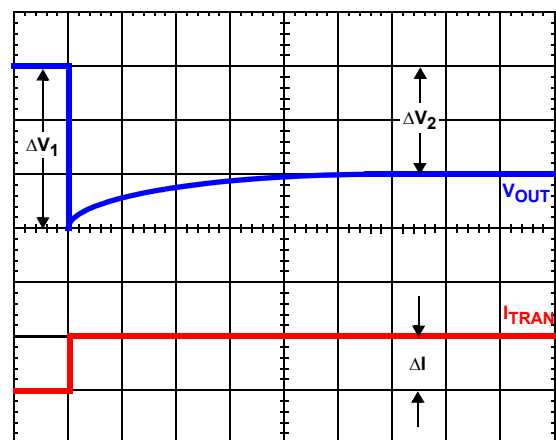

FIGURE 19. TIME CONSTANT MISMATCH BEHAVIOR
Due to errors in the inductance and/or DCR it may be necessary to adjust the value of  $R_1$  and  $R_2$  to match the time constants correctly. The effects of time constant mismatch can be seen in the form of droop overshoot or undershoot during the initial load transient spike, as shown in Figure 19. Follow the steps below to ensure the R-C and inductor L/DCR time constants are matched accurately.
3. Record  $\Delta V_1$  and  $\Delta V_2$  as shown in Figure 19.